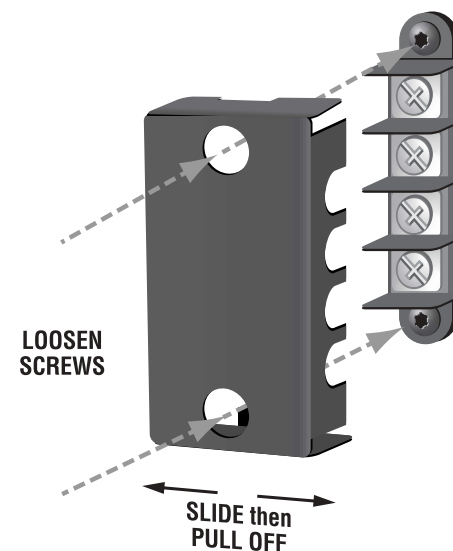

Figure 3.6 How to Remove the Two-Holed Barrier-Block Cover
1. Loosen screws inside top and bottom holes of cover (see Figure 3.6).
Typical input and output wiring, along with Attenuator and Mode Switch settings are shown in Figures 3.6 and 3.7. Make sure the Mode switch is set to the "Dual" position when operating in Dual mode.